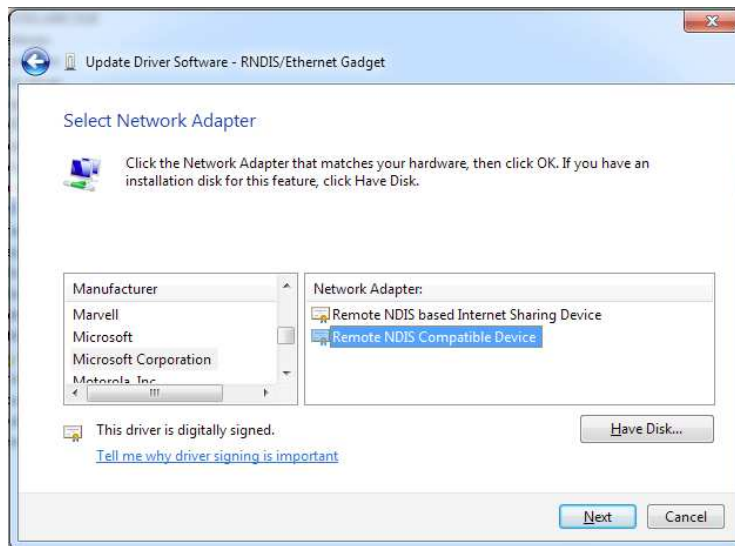

Figure 2-9. Windows 7 Update Driver Software Select Network Driver Window
7. Select "Microsoft Corporation" as the manufacturer and "Remote NDIS Compatible Device" as the network adapter. Click "Next." See Figure 2-9.